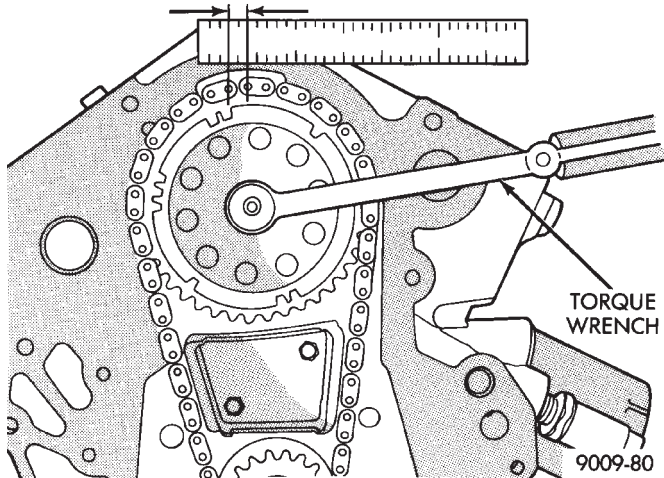

Fig. 4 Measuring Timing Chain Wear and Stretch
(1) Place a scale next to timing chain so that any movement of chain may be measured.
(2) Place a torque wrench and socket on camshaft sprocket attaching bolt and apply torque in direction of crankshaft rotation to take up slack; 41 N•m (30 ft. lb.) with cylinder head installed or 20 N•m (15 ft. lb.) with cylinder heads removed. **With a torque applied to the camshaft sprocket bolt, crankshaft should not be permitted to move. It may be necessary to block crankshaft to prevent rotation.**
(3) Holding a scale even, with dimension reading as shown (Fig. 4), along edge of chain links. Apply torque in the reverse direction to 41 N•m (30 ft. lbs.) with cylinder heads installed, or 20 N•m (15 ft. lbs.) with cylinder heads removed. Check amount of chain movement (Fig. 4).
(4) Install a new timing chain, if its movement exceeds 3.175mm (1/8 inch) (Fig. 4).
(5) If chain is not satisfactory, remove camshaft sprocket attaching bolt, and remove timing chain with camshaft sprocket.
(6) Using a suitable puller remove the crankshaft sprocket. Be careful not to damage the crankshaft surface.